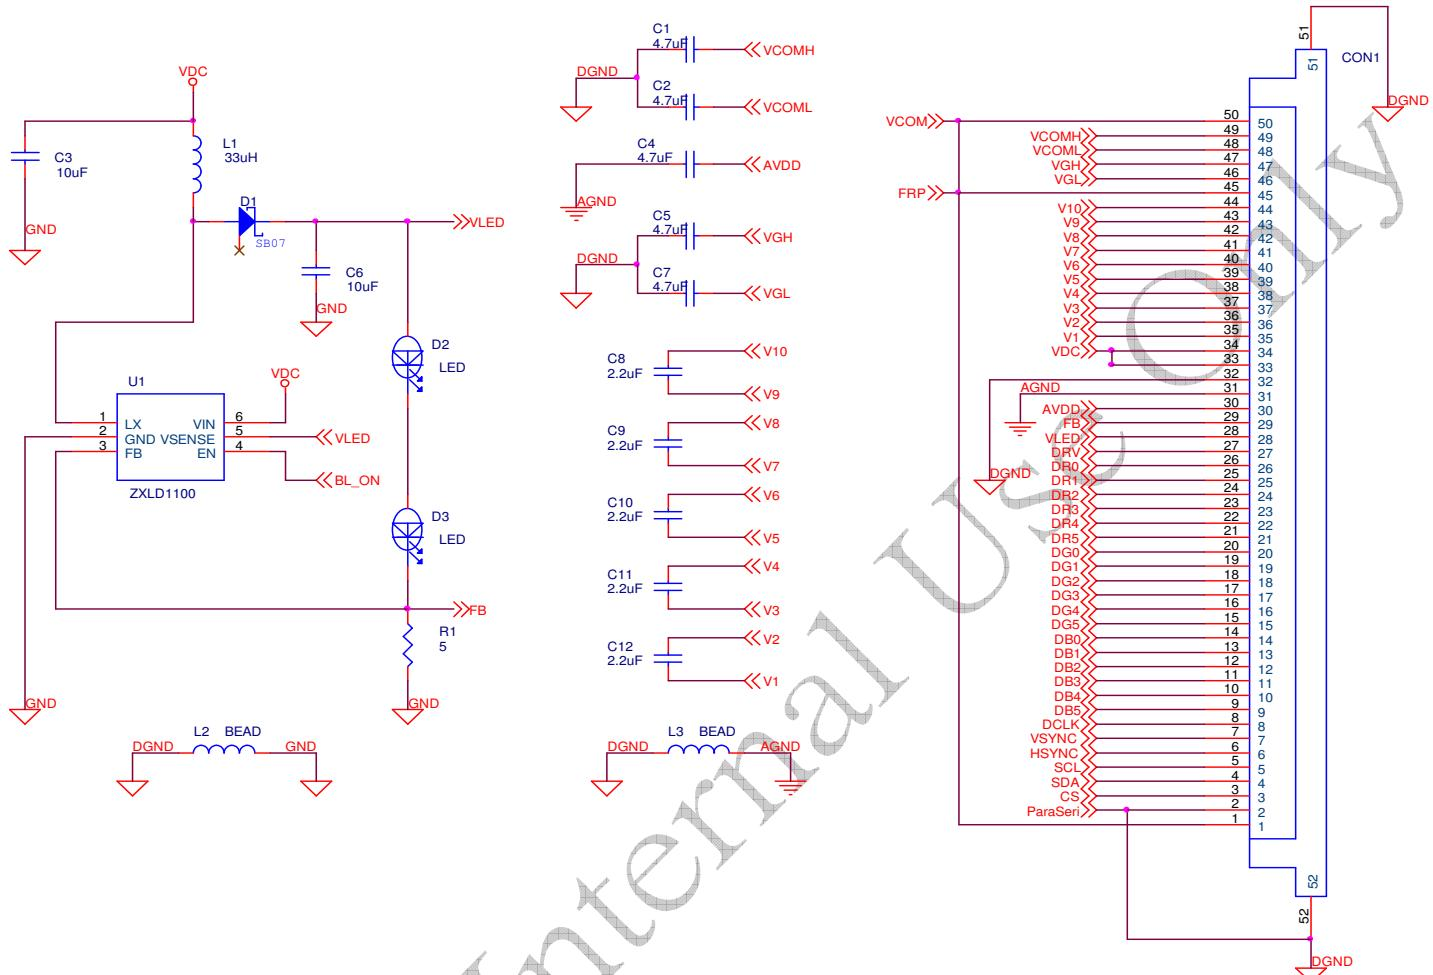

Fig. 7 External LED Driver Application Circuit
See Fig. 7 for the application circuit.
According to Fig. 7, the LED driver(ZXLD1100) and R1(5 ohm) with 0.1V feedback (FB) can provide a constant 20mA current for LED backlight unit. To control the back light on/off timing, user should create a control signal BL\_ON (please refer to the ZXLD1100 date sheet). The LCD driver output DRV signal can also be used to drive BL\_ON.